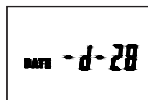

Fig. 4
7. While viewing the display (see Fig. 4), press the **LEVEL** button to choose the desired day of the month. Then press the **HOLD** button to save this day.